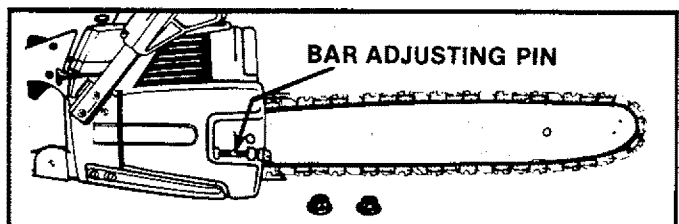

Figure 8
- j. Install the Bar Clamp by sliding the bar clamp over the mounting studs and fitting the bar adjusting pin into the round hole in the Guide Bar. Figure 8.